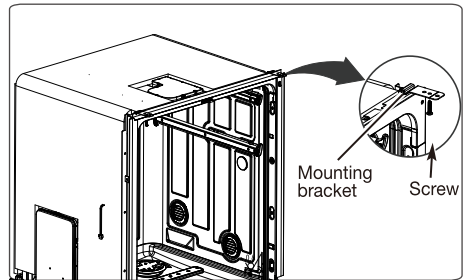

FIG. 11
- Before sliding the unit into place you will need to attach the mounting brackets. See FIG.11 for mounting bracket instructions.
For countertops made of wood or that will not be damaged by drilling, use Method 1 shown as FIG. 11.
METHOD 1 (FIG. 11)